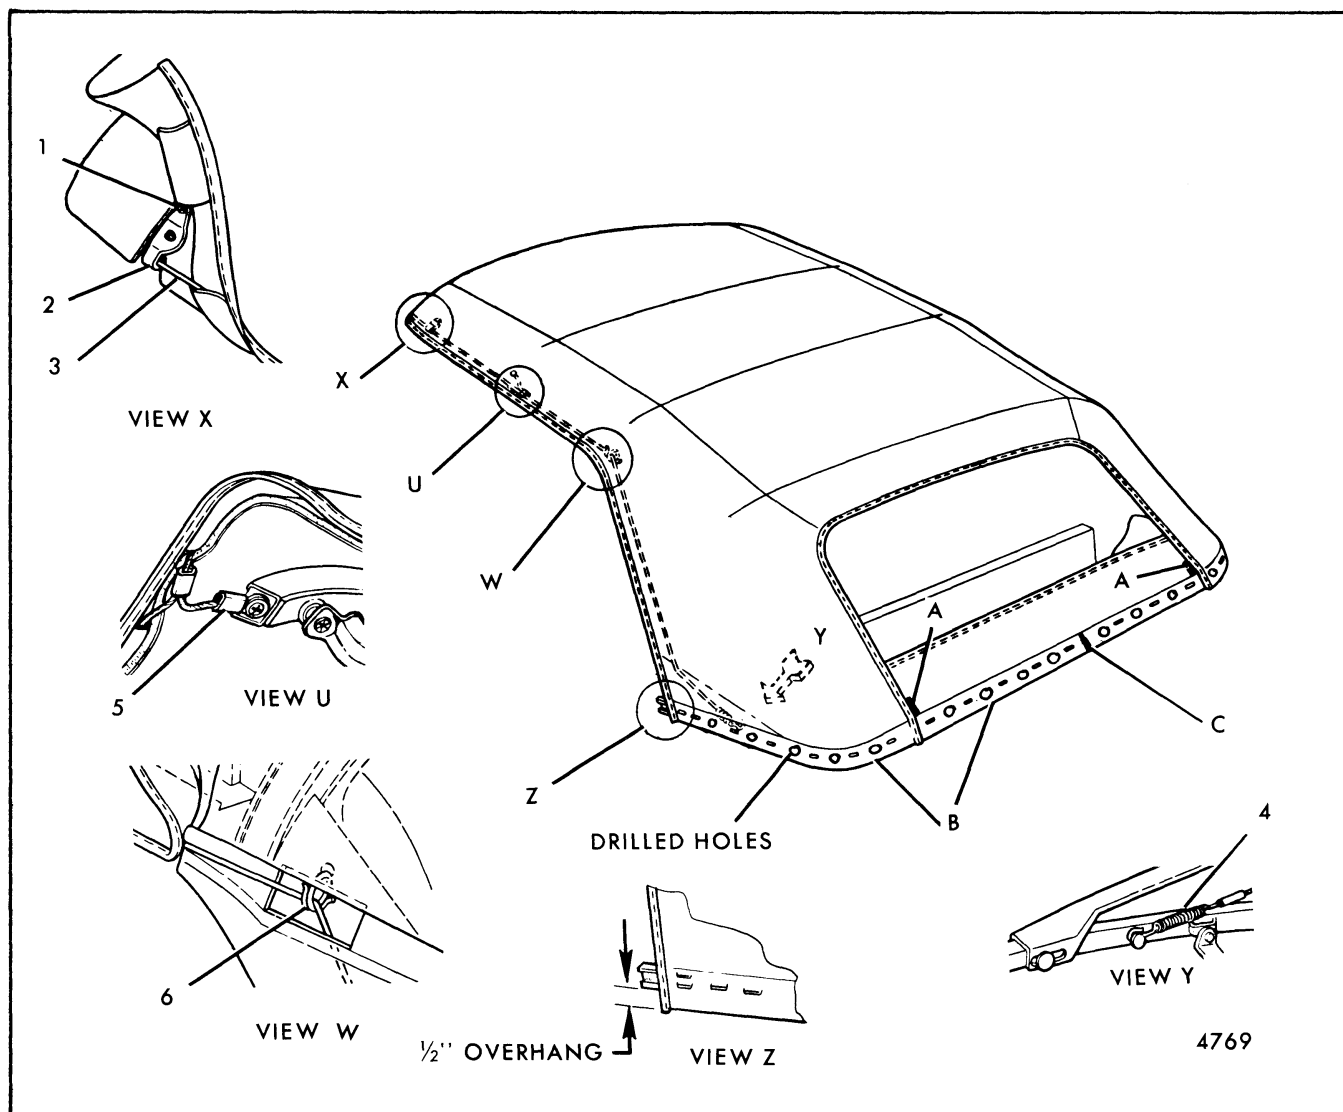

Fig. 8-54-Hold-Down Cable Attachment and Convertible Top Reference Marking
D. With top a short distance above windshield header, remove attaching screws, loosen metal tabs and detach hold-down cables at front (Fig. 8-54).
E. Detach hold-down cables from front bow and side roof rail rear (View "U" and "W", Fig. 8-54).
- A. Vertical edge references of top cover on back curtain at trimstick (Item "A", Fig. 8-54).
- C. Center mark on trimstick and on back curtain (Item "C", Fig. 8-54).
- D. Reference mark at two (2) inch intervals along center line of trimstick on top cover and back curtain (Figs. 8-54 and 8-60). Remove staple or tack which may be at reference location.
9. Pull top cover upward and detach hold-down cable rear spring from each side of trimstick (View "Y", Fig. 8-54).